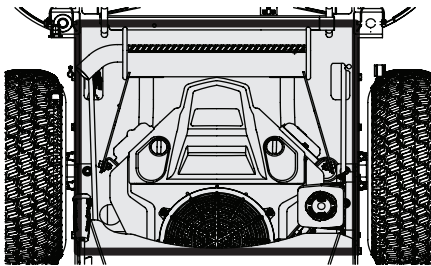

Figure 7
- Clean around the exhaust manifold, fuses, all wiring and harnesses, muffler pipe, muffler shield, engine intake screens and cooling fins, etc (Figure 7).